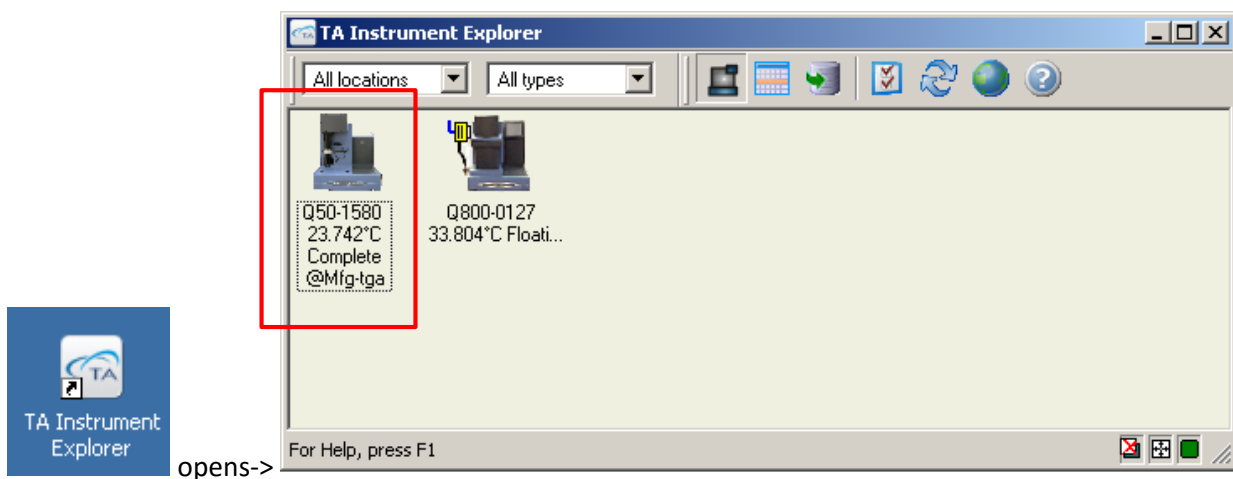

Fig. 6, The TA Instrument explorer icon is on the middle of the desktop. Double click the left icon in the explorer to open the TGA control software.
11. Set up your testing procedure through the computer. Open the “TA Instruments Explorer” icon on the desktop, and double click on the left icon that is the TGA (Fig. 6). This will open the operating software.